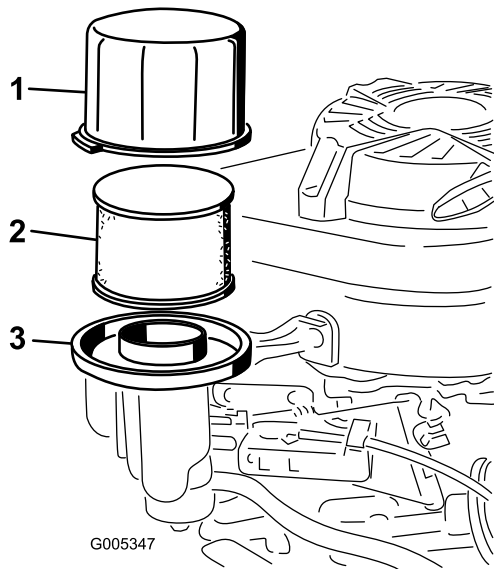

Figure 24
3. Remove the cover and clean it thoroughly (Figure 24).
4. Remove the foam pre-filter and the paper-air filter from the air-filter base (Figure 24).